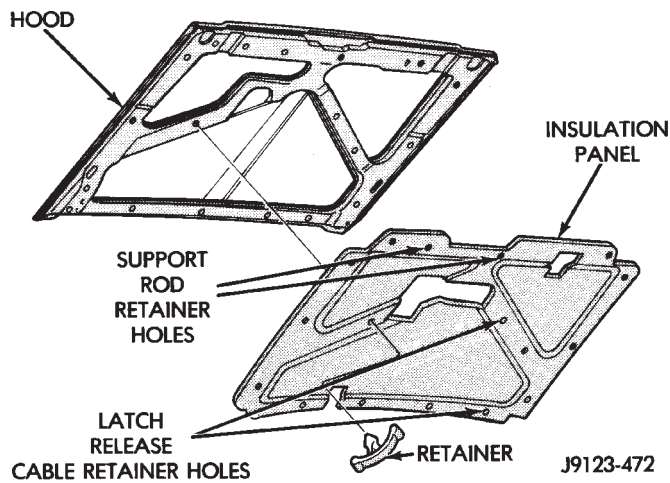

Fig. 17 Hood Insulation Panel
- (11) Remove the screws that attach the hinges to the hood. Remove the hood from the vehicle with the aid of a helper.
- (12) Remove the insulation panel from the hood (Fig. 17).